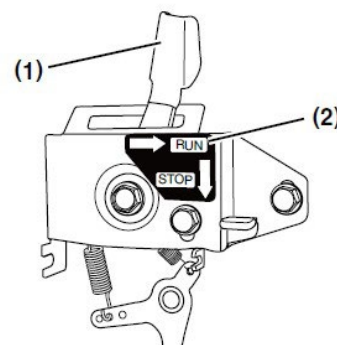

Figure 3
2. If your engine speed control is similar to **Figure 3** slide the engine speed control lever (**Figure 3, (1)**) to the RUN position (**Figure 3; (2)**).